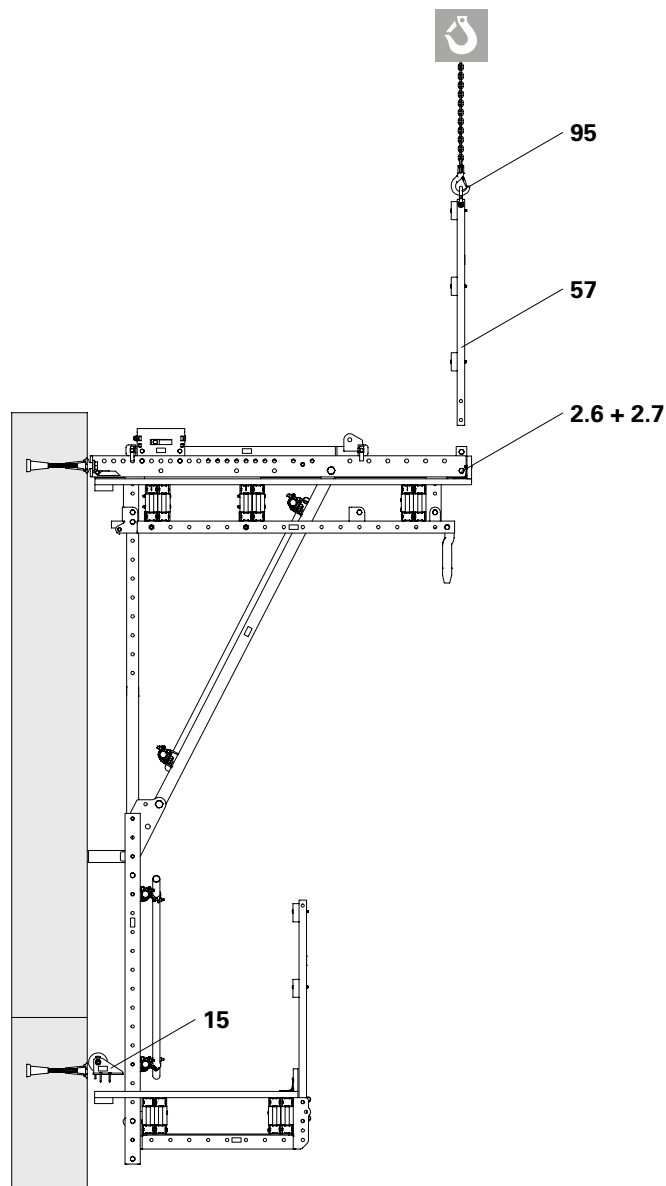

Fig. B7.02
6. Set guardrail unit down on dismantling area and take apart. (Fig. B7.02)